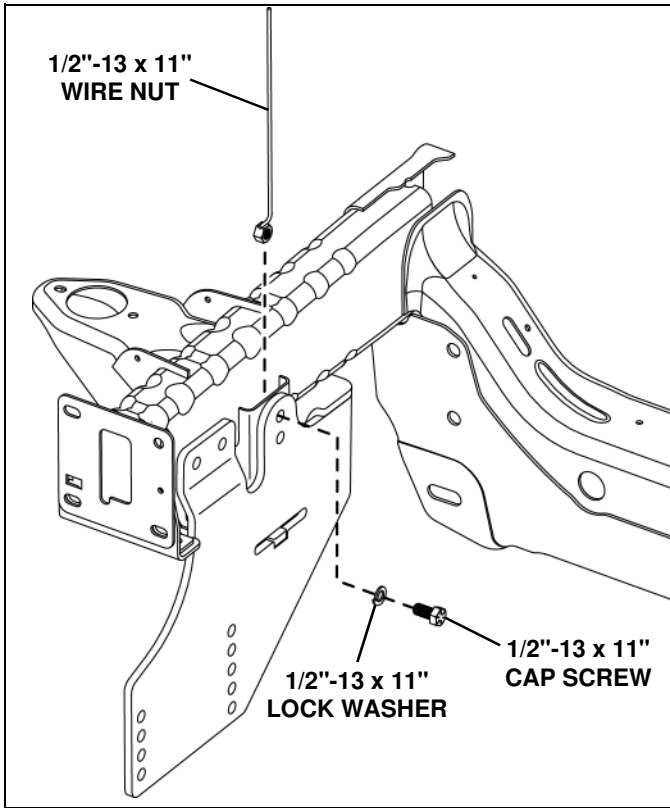

Figure 5
- a. Insert (1) M12-1.50 x 30mm Cap Screw (#10) through (1) 1/2" Lock Washer (#9), and the lower hole of the Weldment, Side, PS (#3). Then, thread into the lower Tow Hook hole.
- b. Insert (1) Wire Nut, 1/2"-13 x 11" (#5) into the vertical square bracket on the truck frame from the top. Then, insert (1) 1/2"-13 x 1.00" Cap Screw (#11) through (1) 1/2" Lock Washer (#9), then the top side hole of item (#3) and secure to item (#5). (See Figure 5)